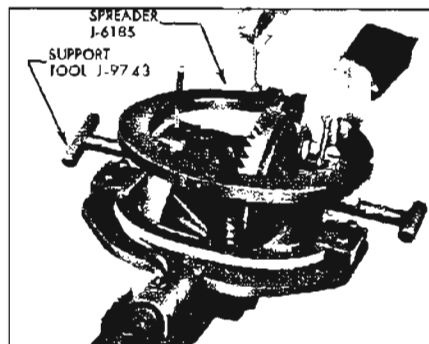

Figure 6-36—Installing Differential Bearing Shims
**CAUTION:** Do not spread pedestals any farther apart than is absolutely necessary to push differential shim into position. If pedestals are sprung too far, they may take a permanent set. See Figure 6-36. Leave support tool in position until after shim is started to keep case assembly from dropping out of line.